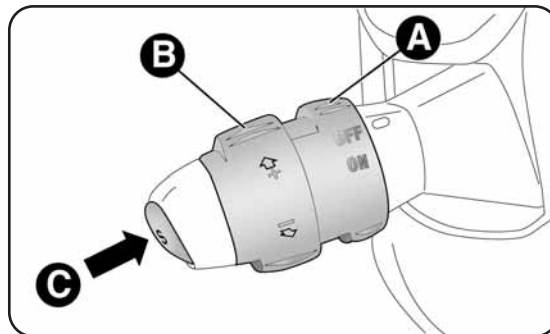

fig. 31
Turn selector wheel A-fig. 31 to ON.
- turn selector wheel A-fig. 31 to ON and press the accelerator until the vehicle reaches the desired speed;
- press button C-fig. 31.
- by temporarily turning selector wheel B-fig. 31 to (+).
- by keeping selector wheel B-fig. 31 turned to (-) until the new speed is reached; it will then be memorised automatically.
Turn selector wheel A-fig. 31 to OFF or turn the ignition key to STOP. In addition, the device is automatically disengaged in any of the following cases:
In the event of a malfunction or fault, turn selector wheel A-fig. 31 to OFF and contact a Lancia Dealership after having checked the condition of the protective fuse.